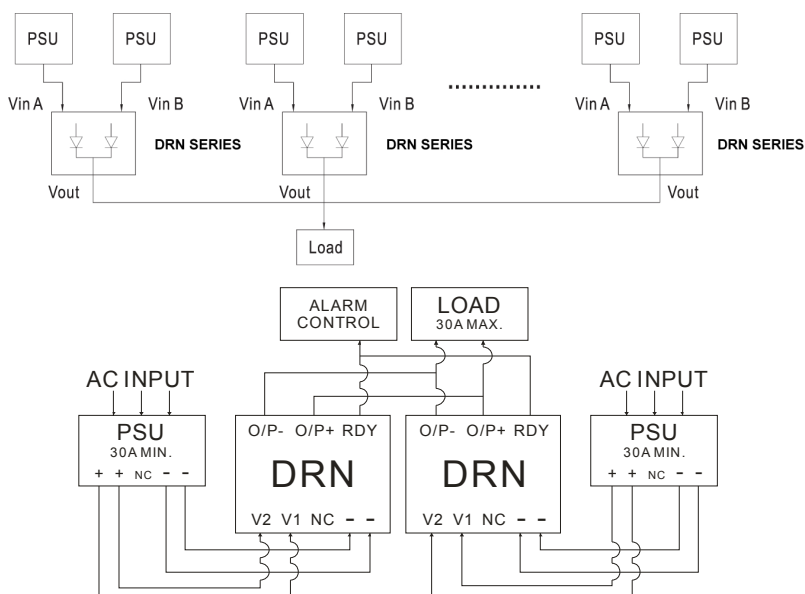

Figure 2
2. Expansion Current Connection: When more current is needed for the output, multiple DRNs need to be connected in parallel, and the maximum current output is the sum of N DRNs. The wiring is shown in Figure 2. The working principle is the same as the Standard Current Connection. When multiple DRNs are connected in parallel, each group V1 and V2 is connected in parallel.